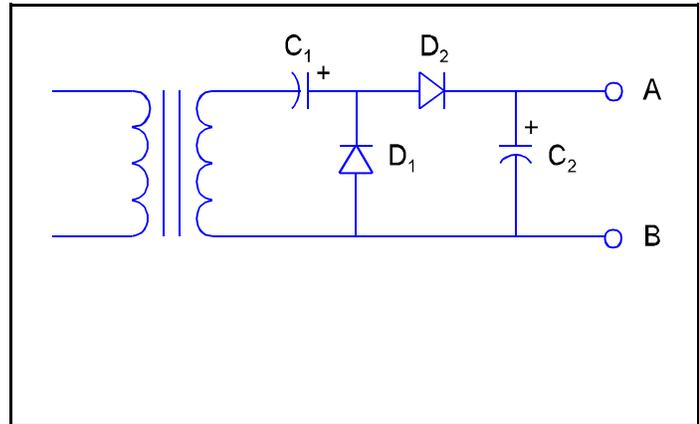

Figure 1 Half Wave Voltage Doubler
1. Assemble the circuit in Figure 1 using 1N4001 diodes and 47 μF capacitors.